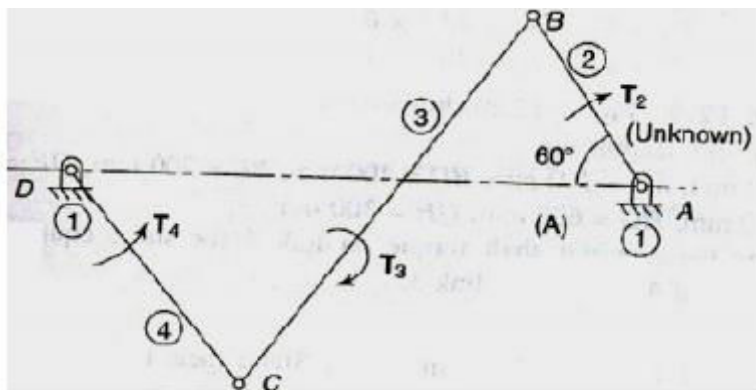

Figure 1
2. In a four-link mechanism shown in Figure 1. Torque  $T_3$  and  $T_4$  have magnitudes of 30 N.m and 20 N.m respectively. The link lengths are  $AD = 800$  mm,  $AB = 300$  mm,  $BC = 700$  mm and  $CD = 400$  mm. For the static equilibrium of the mechanism, determine the required input torque  $T_2$ .